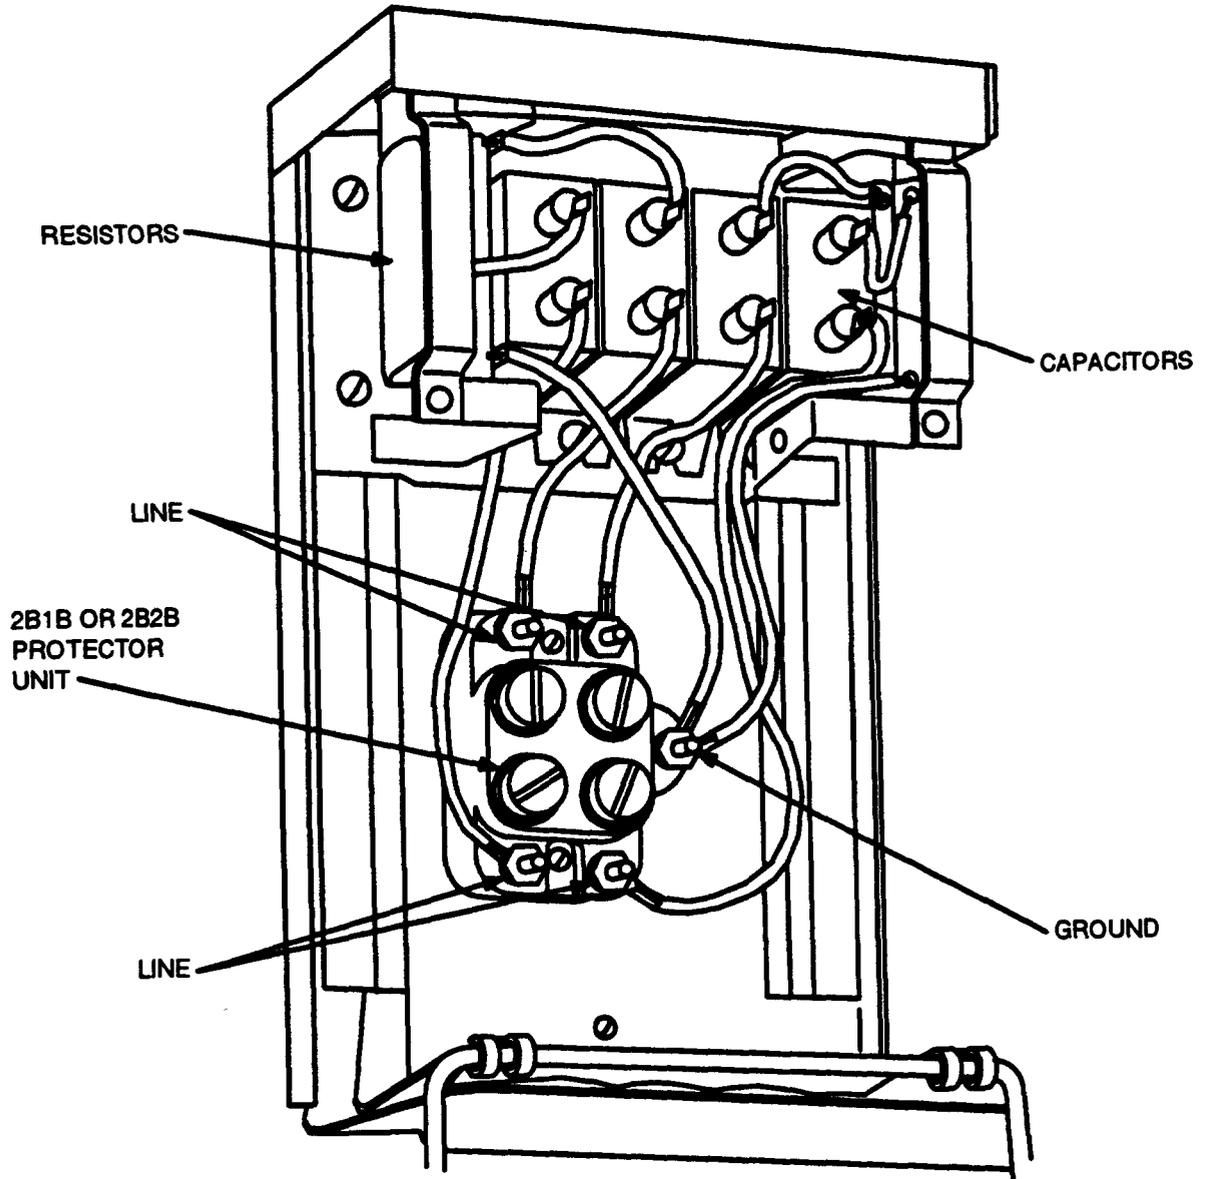
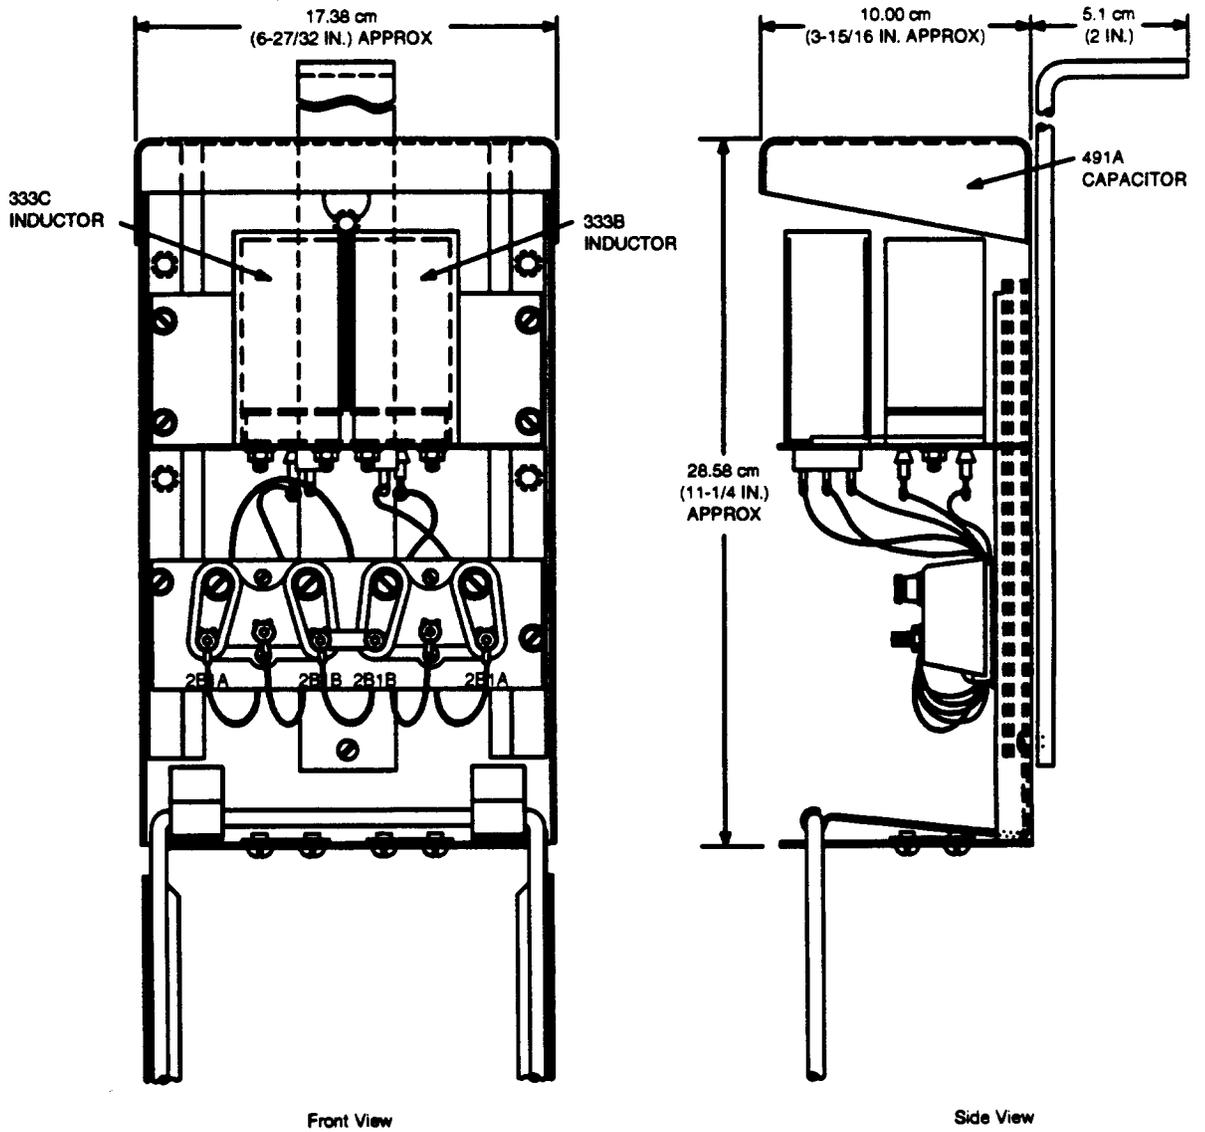

Figure 1. Inside of 104B Protector
Figure 2. 108C Protector
- 2.01** The 104B protector (Figure 1) and 108-type protectors (Figure 2) are designed to limit the voltages that may be induced in C rural wire telephone circuits as a result of exposure to nearby power circuits. By providing balanced drainage paths from the two sides of the telephone circuit to ground, the protectors reduce the induced voltages